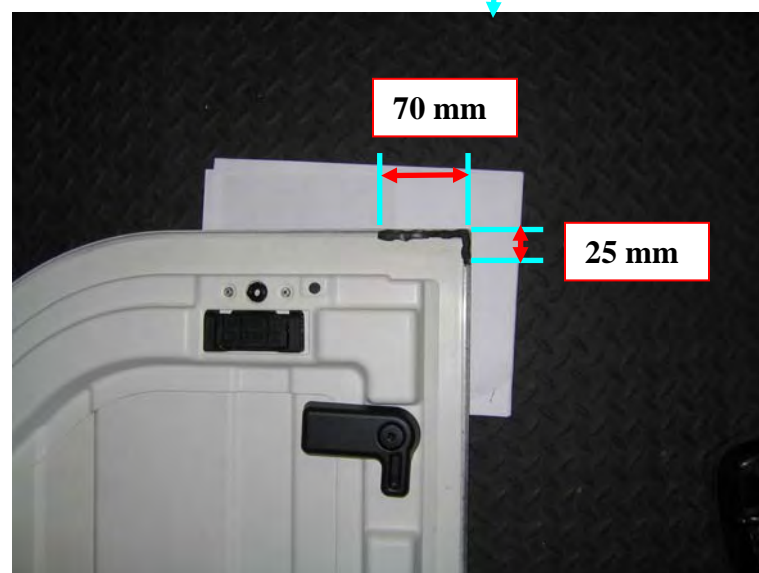

Figure 27
- Add 4mm diameter butyl, (68027813AA) to rear inboard corner groove (Figure 27)